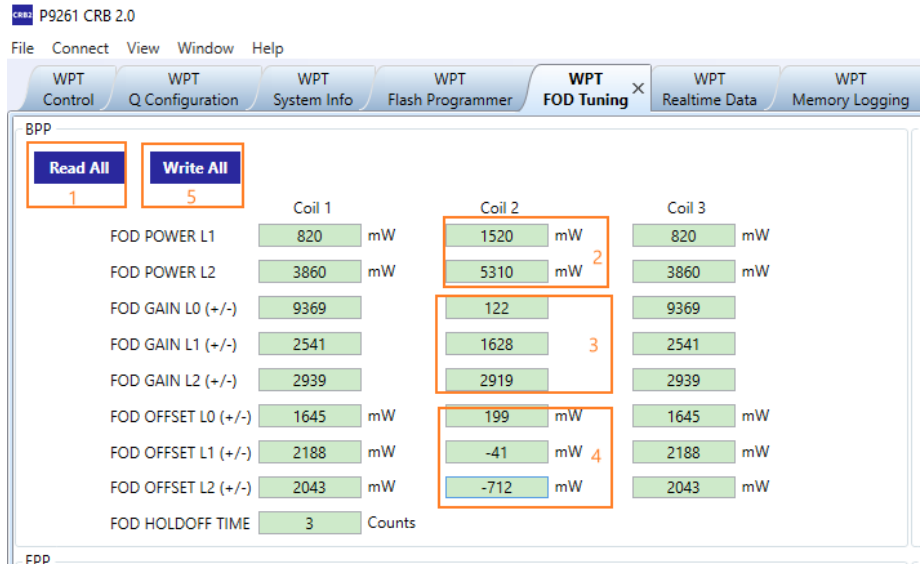

Figure 3. Set the FOD Parameters via the GUI for BPP Coil 2
- After obtaining all the FOD parameters, they can then be written to the 9261 via the GUI (see Figure 3).